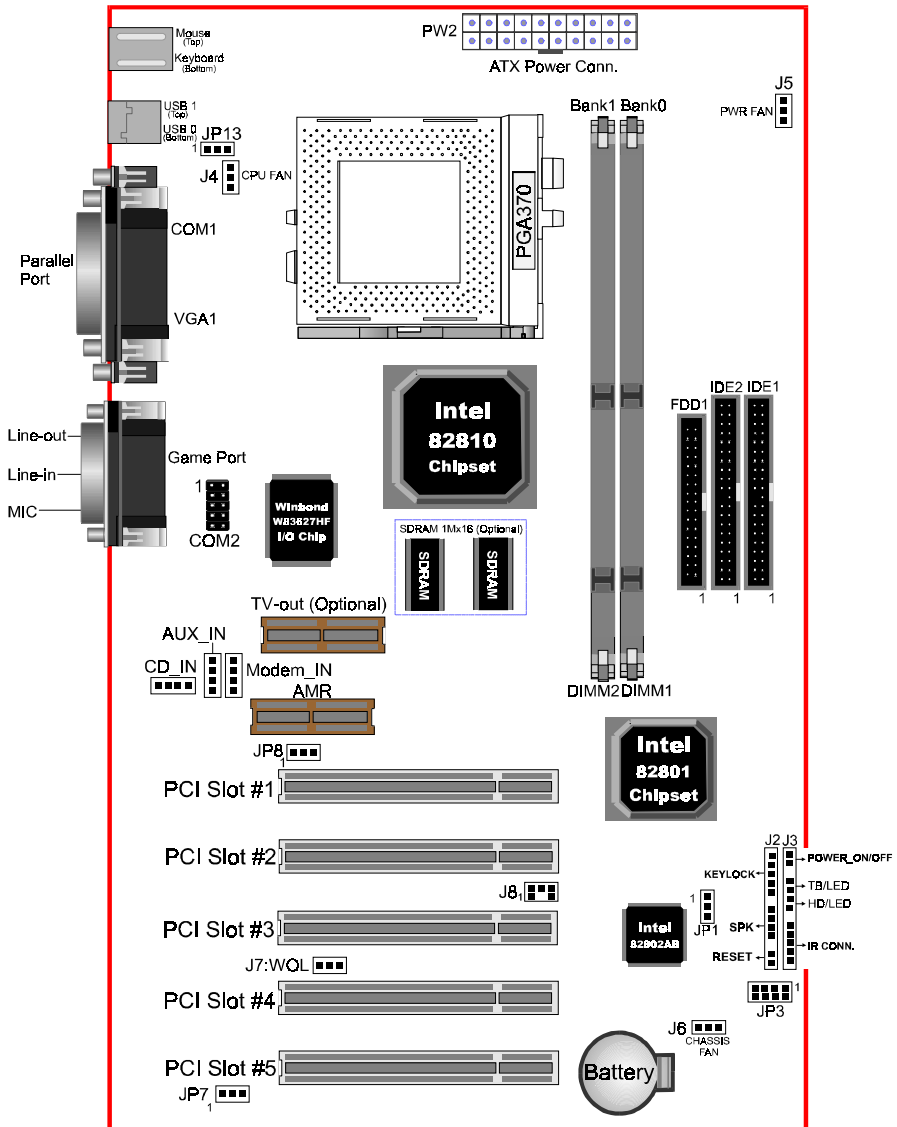

Figure 1
*Note: The jumpers as depicted as shown (Figure 1) in their correct physical orientation.*